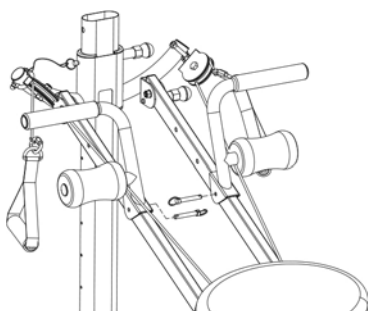

FIGURE 3
3. Insert the 2 Short Hitch Pins through the holes on the Wing Attachment Brackets and the hole on the Rails, as shown in Figure 3.